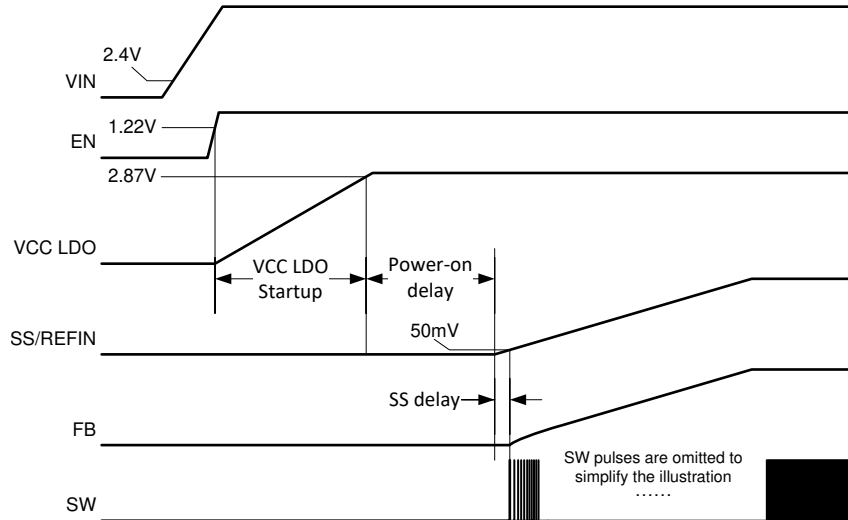

图 7-1. Internal Power-up Sequence Using Internal LDO
**Figure 7-1** shows an example where the VIN UVLO rising threshold is satisfied earlier than the EN rising threshold. In this scenario, the VCC UVLO rising threshold becomes the gating signal to start the internal power-up sequence, and the sequence between VIN and EN does not matter.